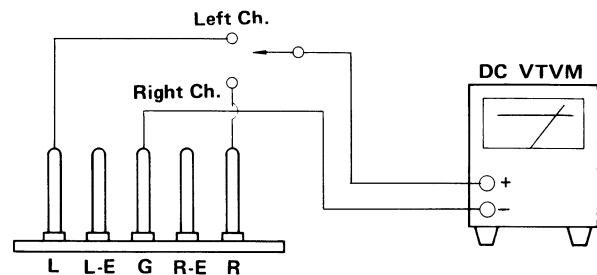

Fig. 22B
2. Connect a DC VTVM to test points "L" and "G" ("R" and "G"). Refer to Fig. 22B.